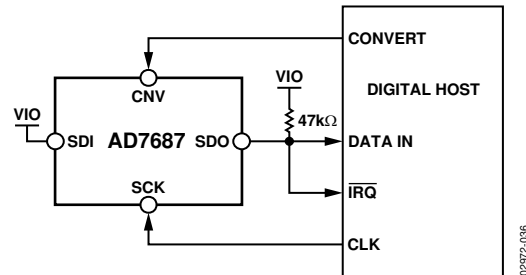
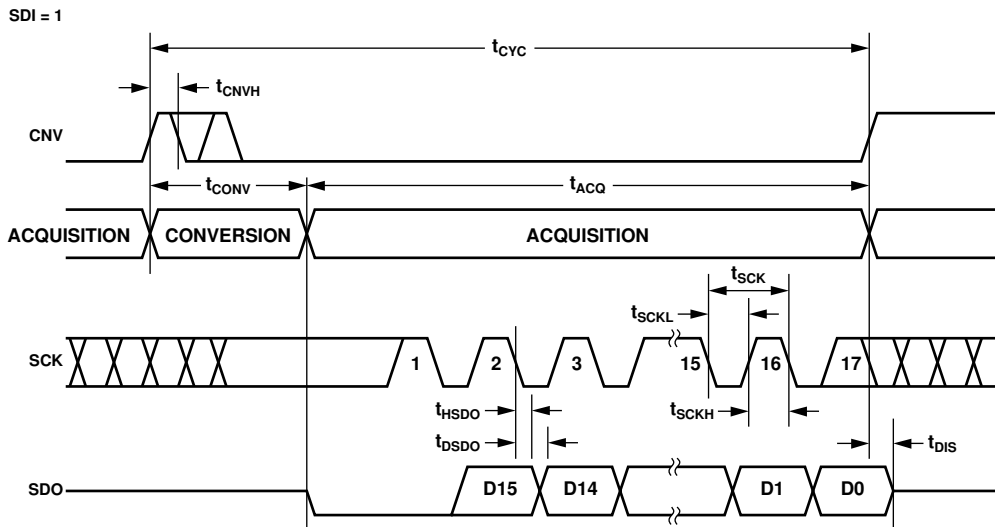
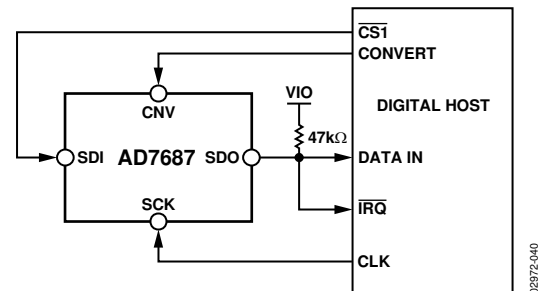
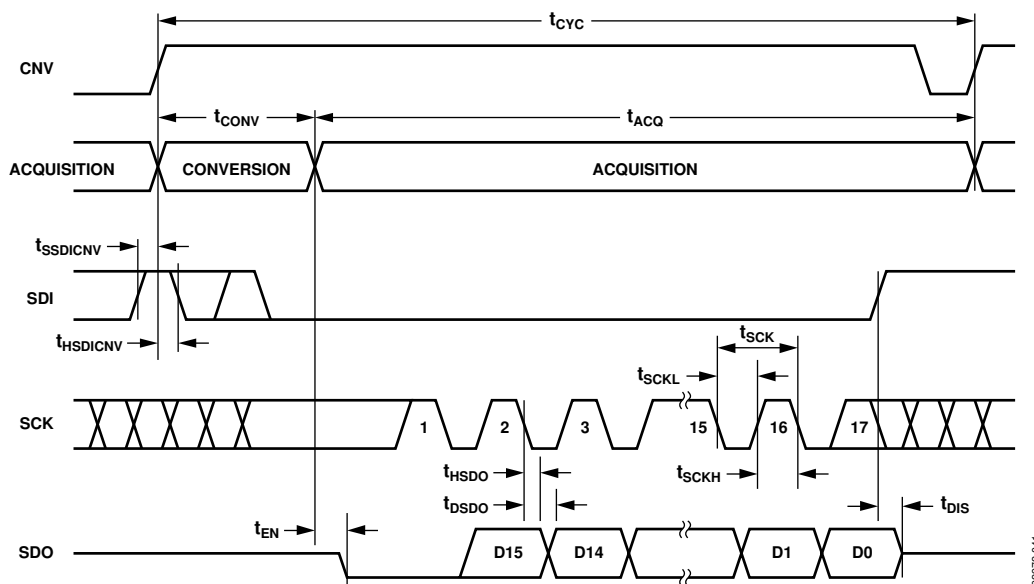

Figure 36.  $\overline{\text{CS}}$  Mode, 3-Wire with BUSY Indicator Connection Diagram (SDI High)
Figure 37.  $\overline{\text{CS}}$  Mode, 3-Wire with BUSY Indicator Serial Interface Timing (SDI High)
Figure 40.  $\overline{\text{CS}}$  Mode, 4-Wire with BUSY Indicator Connection Diagram
Figure 41.  $\overline{\text{CS}}$  Mode, 4-Wire with BUSY Indicator Serial Interface Timing
- In the  $\overline{CS}$  mode if  $\overline{CNV}$  or SDI is low when the ADC conversion ends (see Figure 37 and Figure 41).
Figure 36 shows the connection diagram and Figure 37 gives the corresponding timing.
Figure 40 shows the connection diagram and Figure 41 gives the corresponding timing.